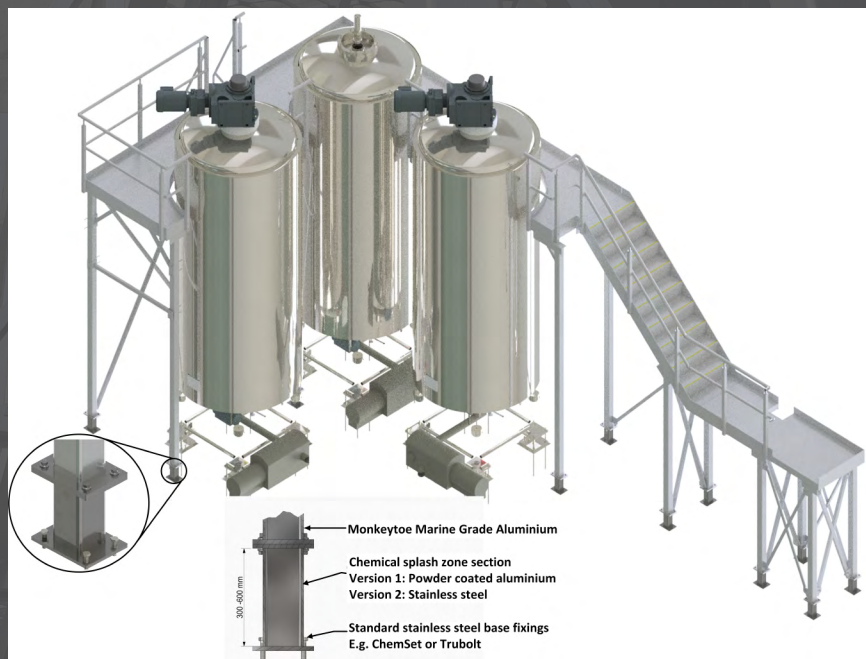

Figure 8: Protected Section in a concentrated Chemical splash zone
1. Good when exposed to pH levels greater 4 and less than 11. For pH levels less than 4 in splash zone follow the appropriate protection measures outlined in Figure 8, version 1.
2. Compatible for solutions having pH value of less than 11. If exposed to high pH values for extended periods use splash zone protection version 2 of Figure 8.